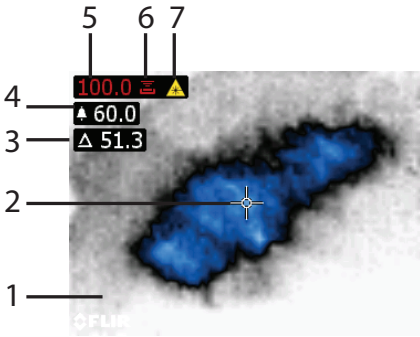
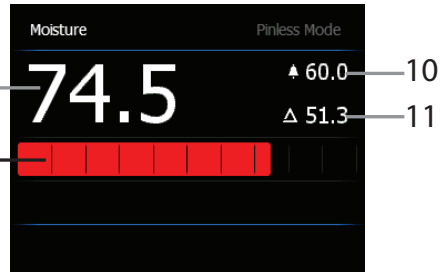

Fig. 5-1 IR + Moisture Image
Fig. 5-2 Moisture reading only
Moisture readings are shown on the display (digitally and with bar graph) in the Moisture-only mode or in small digits (upper left hand corner) in IR + Moisture mode. See Fig. 5-1 and Fig. 5-2. Pinless measurement readings are relative scaled (0~100) while pin-based readings are represented in %WME (percent wood moisture equivalent) 0~100%.
Most of the MR160 operations are represented in the icons and displays shown in Fig. 5-1 and Fig. 5-2 below. Other operations are covered in the context of each section of this User Guide.
3. The relative moisture reading is displayed on the main display in the upper left hand corner (IR + Moisture mode) or as bargraph with accompanying digits (Moisture-only mode). Refer to example screens shown in Fig. 5-1 and Fig. 5-2.
5. The moisture reading is displayed on the main display (in %WME) in the upper left hand corner (IR + Moisture mode) or as a bargraph with accompanying digits (Moisture-only mode). Refer to example screens shown in Fig. 5-1 and Fig. 5-2.
2. When the SET REFERENCE mode is selected a new display line will appear preceded by a delta (triangle) symbol. The digits next to the triangle symbol indicate the reference value (the measurement recorded when the SET REFERENCE mode is selected). Refer to example screens shown in Fig. 5-1 and Fig. 5-2.
4. The reference value is displayed on the main display in the upper left hand corner (IR + Moisture mode) or to the right of the bargraph (Moisture-only mode). Refer to example screens shown in Fig. 5-1 and Fig. 5-2.